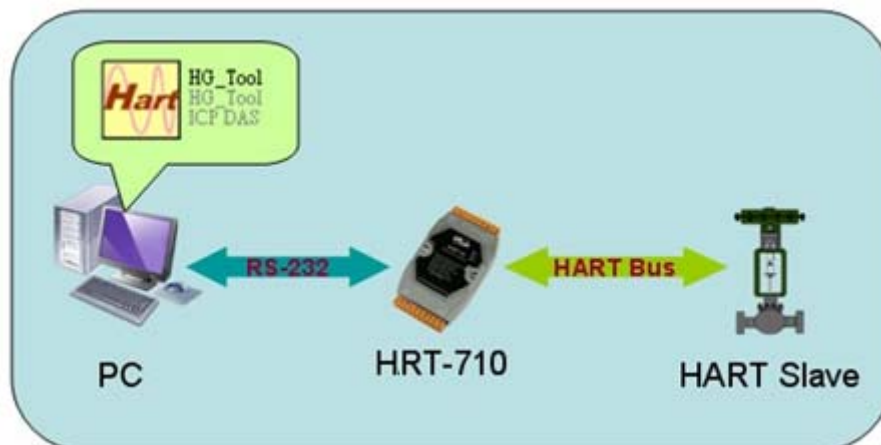

Figure 1: Application example
The quick start is used to help users quickly understand HRT-710 how to convert Modbus communication to HART. The below demo will use a HRT-710 module (as HART master), one HART slave device and one PC to make a simple application as below Figure 1. The PC is prepared for the setting and operation of HRT-710.
Step 1: Connect PC, HRT-710 and HART slave device according to figure1.